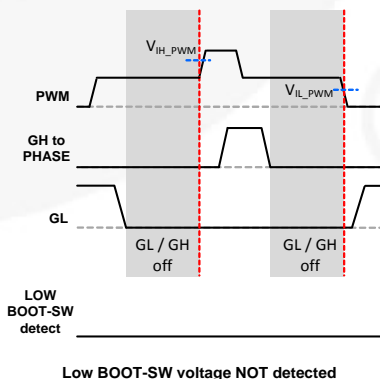

Figure 35. Low BOOT-SW Voltage NOT Detected and PWM from 3-State to HIGH or LOW
- If no low BOOT-SW condition is detected, the SPS follows the PWM command when exiting 3-state (see Figure 35).